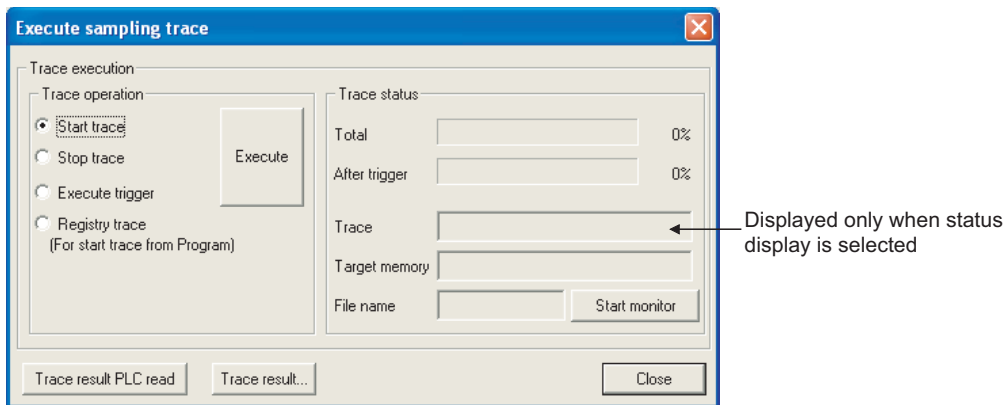

Figure 6.71 Execute sampling trace screen
- 1) Click the **Trace result PLC read** button on the screen shown in Figure 6.71 to read trace results.
- Click the **Trace result PLC read** button on the screen shown in Figure 6.71 to read the trace result to the personal computer.
- Click the **Trace result** button on the screen shown in Figure 6.71 to display the trace result.